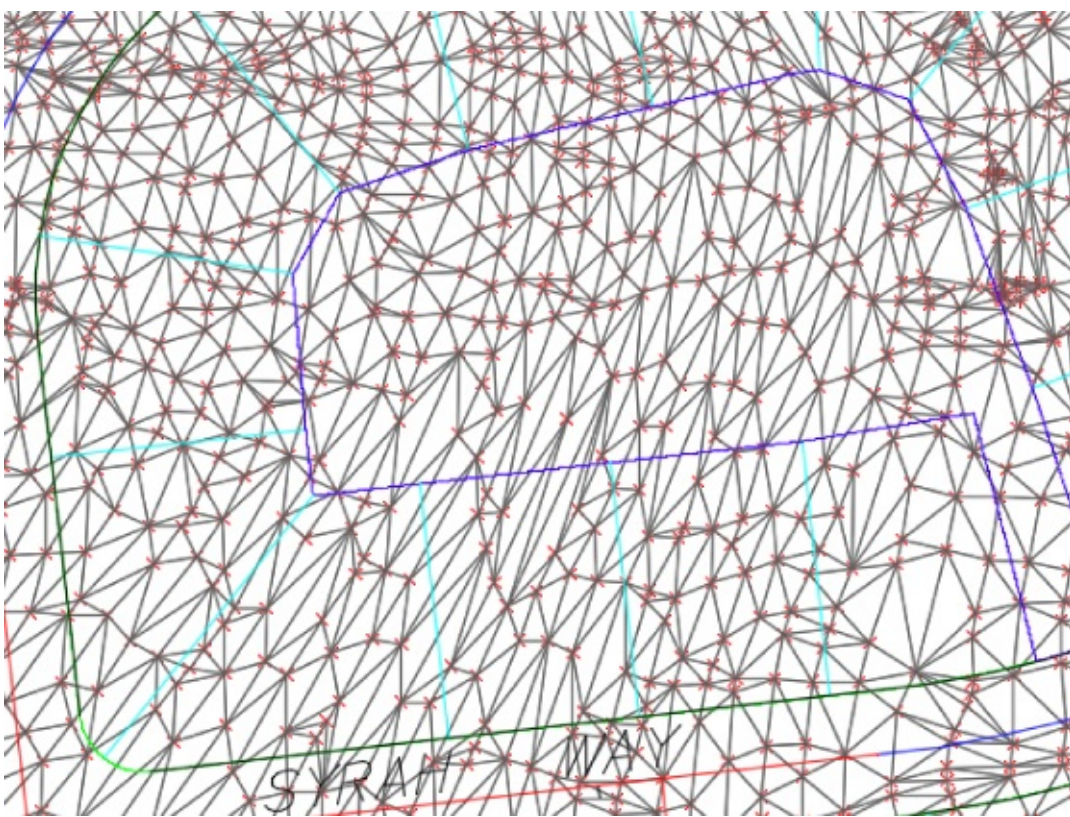

Figure 19.30 Triangles and points shown using the new surface style
10. Your surface will resemble Figure 19.30.